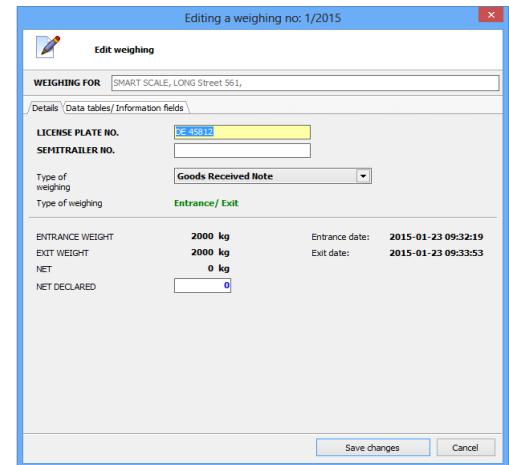

Fig. 22 Weighing modification window
2. Select "Edit" (Ctrl + E); Window of weighing modification will appear as in a Fig. 22